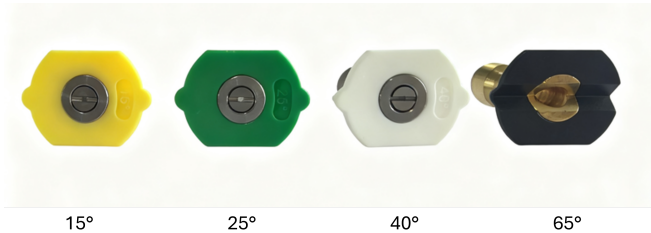

Figure 8: Nozzle Angles
- Choose one of the nozzles (5) dependant on the desired angle, see Figure 8, and attach to the end of the spray lance (11).
- Set the desired temperature and detergent concentration on the detergent flow control (16) (see Section 7.3, page 27) according to the surface to be cleaned.
- Unlock the safety latch (7) of the hand-spray gun (8).